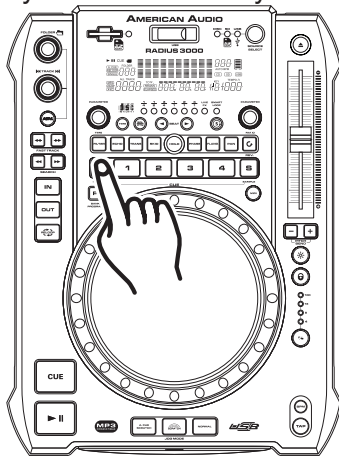
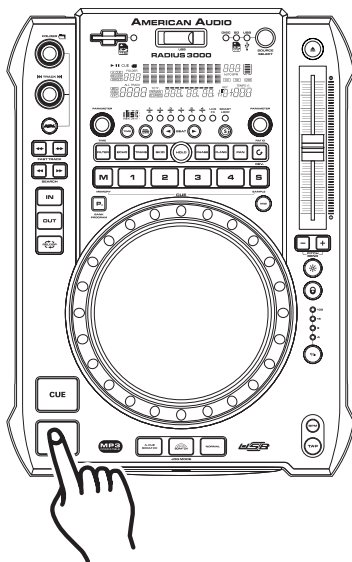

Figure 14
Figure 15
- 1) Create a Cue Point by one of the two means listed on page 20. Press the **MEMORY BUTTON (30)**, as in Figure 14. The red Memory Cue LED will glow indicating the store memory function has been activated. You may now press any one of the four **BANK BUTTONS (28)** to store your cue point into memory (Figure 15). After pressing one of the **BANK BUTTONS (28)**, the corresponding Bank Button LED will flash briefly. The LED on the the **BANK BUTTON (28)** will remain lit indicating either a sample or cue point is stored in memory. The red Memory LED will turn off.